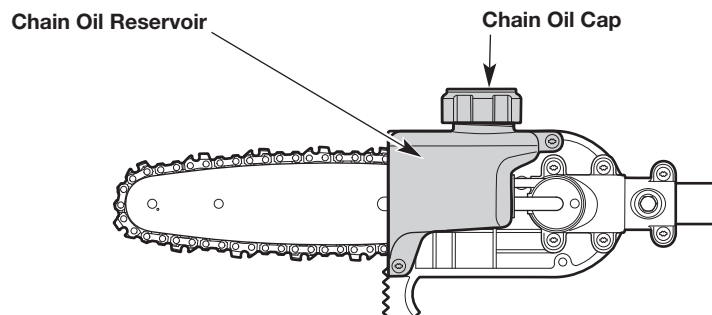

Fig. 12
1. Set the unit on a flat, level surface. Position the unit with the chain oil cap facing up (Fig. 12).
2. Make sure that the chain oil reservoir is at least half full (Fig. 12). If the oil level is too low, add bar and chain oil. Refer to *Filling the Chain Oil Reservoir*.
3. Unscrew the chain oil cap (Fig. 12).